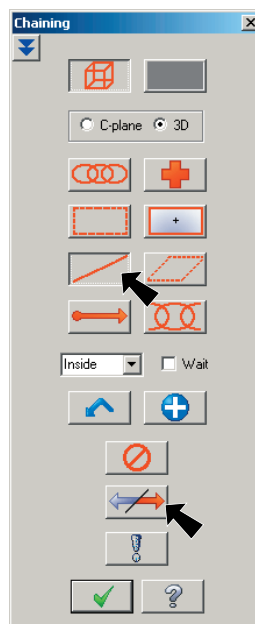
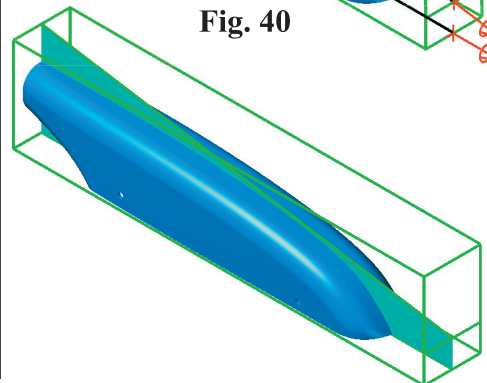

Fig. 39
Fig. 41
Step 5. Click the Single button  in the Chaining dialog box, Fig. 39.
Step 7. Click OK  in the Chain dialog box, Fig. 39 and Fig. 41.